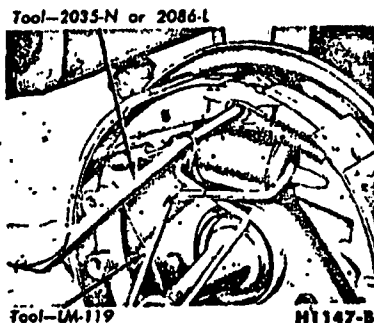

FIG. 8—Retracting Spring Installation
6. Install the secondary shoe to anchor spring (Fig. 8).
8. Install the primary shoe to anchor spring with the tool shown in Fig. 8.